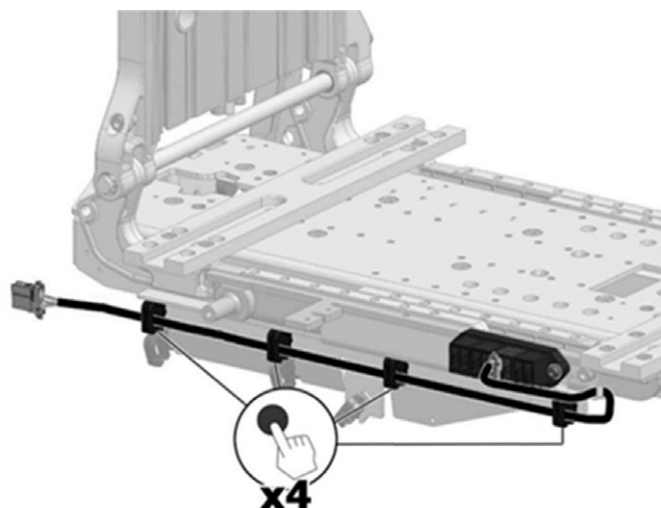

Figure 134. Tilt Motor Cable mounted with four cable brackets (Seat depth 545–570 mm (22"-23")).
4. If the seat depth is set between 545 – 570 mm (22" - 23"), the cable is mounted in four cable brackets. See fig. 134.